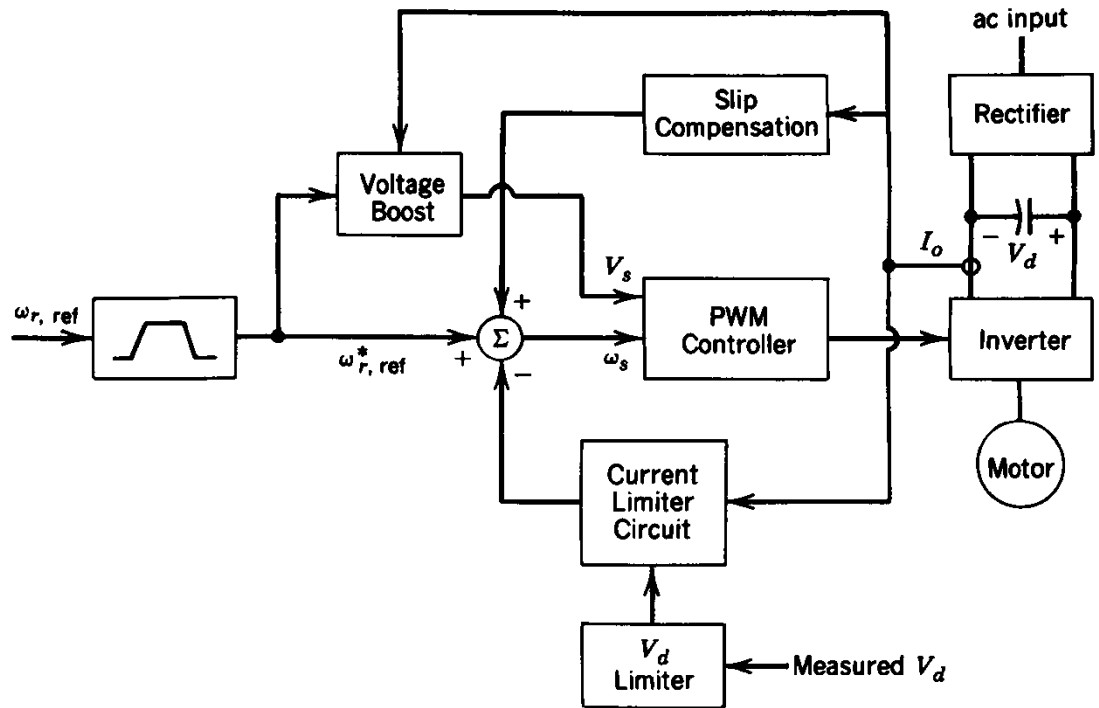

Figure 14-21 Speed control circuit. Motor speed is not measured.
- Figure 14-21** Speed control circuit. Motor speed is not measured.